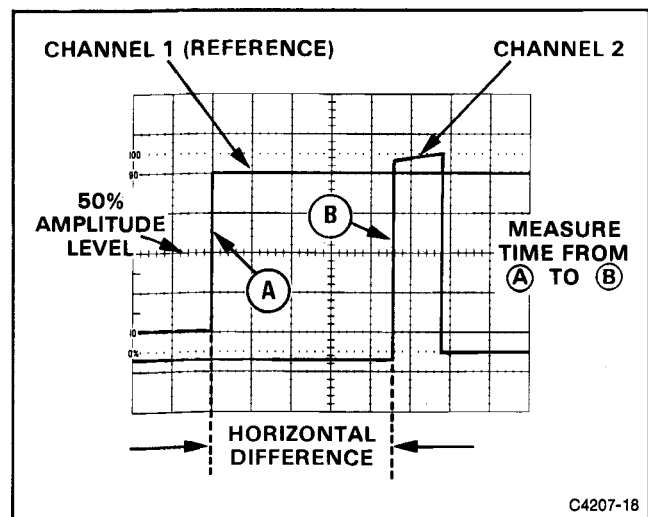

Figure 4-7. Time difference between pulses on time-related signals.
8. Set the SEC/DIV switch to a sweep speed which provides three or more divisions of horizontal separation between the reference points on the two displays. Center each of the displays vertically (see Figure 4-7)